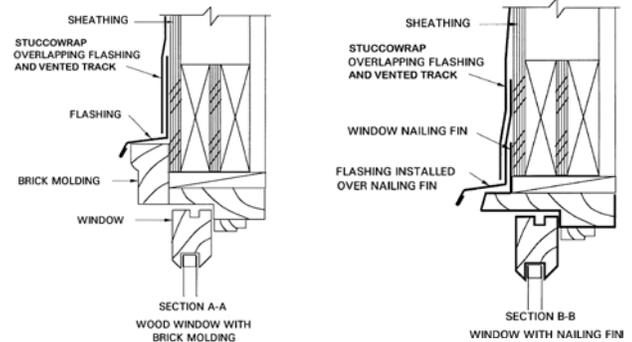

Fig. 22.11
**11. Installation of Track over Heads (ONLY ALLOWED ON COMBUSTIBLE CONSTRUCTION - CONTACT TECHNICAL SERVICES TO DETERMINE IF THIS IS APPROPRIATE FOR YOUR TYPE OF CONSTRUCTION):** Vented track is cut to extend 1/2 in. (13mm) past either end of the head of door or window and installed with its vertical leg **BEHIND** the StuccoWrap and 1/4 in. (6mm) to 3/8 in. (10mm) above the metal head flashing (or head of self-flashing windows) to allow drainage space. Add Flashing Membrane “bandages” at both corners. (Fig. 22.11)